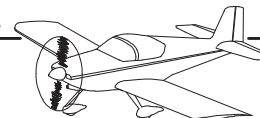

**FIGURE 2:
Step 3: Cleco the F-1238-L Snap Bushing Bracket to the F-1279-L Upper Left Skin as shown in Figure 2.
Step 5: Rivet the F-1238-L Snap Bushing Bracket to the F-1279-L Upper Left Skin using the rivets called out in Figure 2.
Step 6: Insert the snap bushing into the F-1238-L Snap Bushing Bracket called out in Figure 2.
Step 7: Route a string from the forward end of the existing structure to the F-1211 Assembly. The string will go through the F-1238-L Snap Bushing Bracket, out through the left rudder control cable cutout, then back in through the right rudder control cable cutout and through the F-1238-R Snap Bushing Bracket as shown in Figure 2. Return the end of the string to the forward end of the existing structure. Tape both ends of the string to the inside surface of the bottom skin.